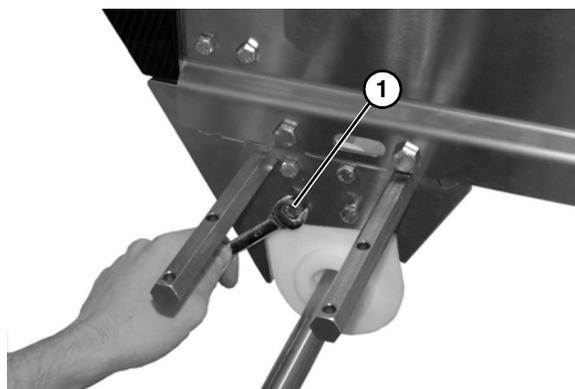

Figure 31
7. Remove the four head plate bolts (Figure 31, item 1) on both sides of conveyor.